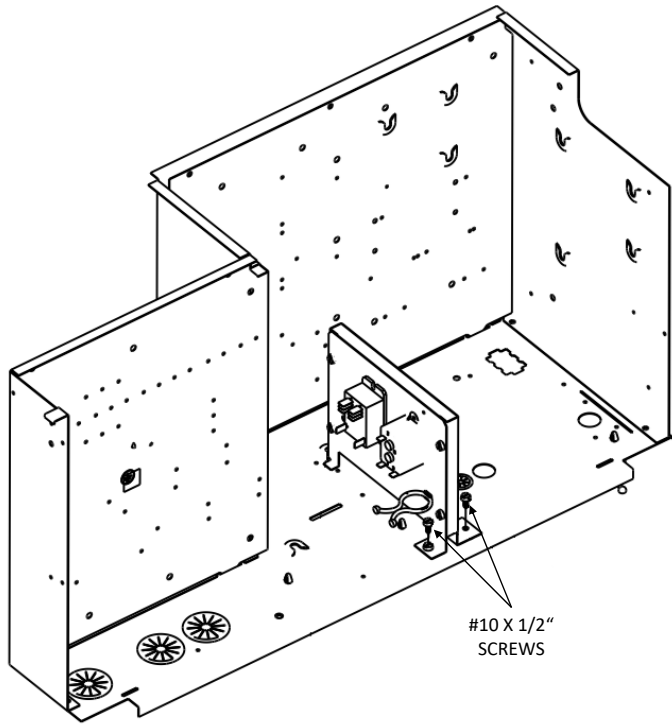

FIGURE 3
5. Slide the rounded tab of the Accessory Mount into the slot in the bottom of the control box. Secure the tabs on the opposite side of the Accessory Mount and LACK Mount to the control box with the two remaining #10 X 1/2" screws. See Figure 3.